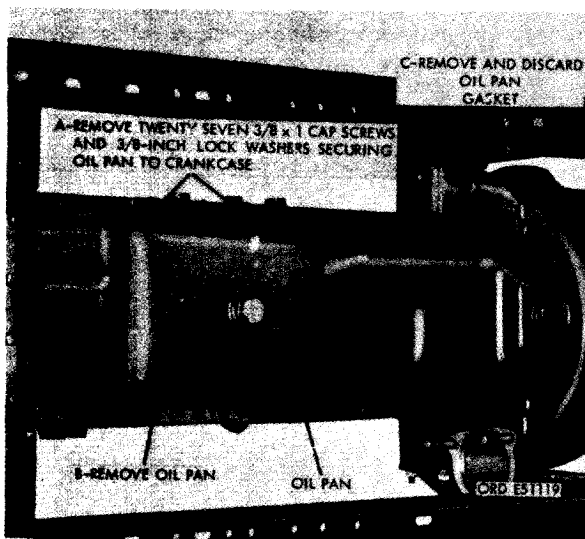

FIGURE 277. REMOVING OR INSTALLING ENGINE OIL PAN.
**b. Removal.** Refer to figure 277 and remove the oil pan and oil pan gaskets.